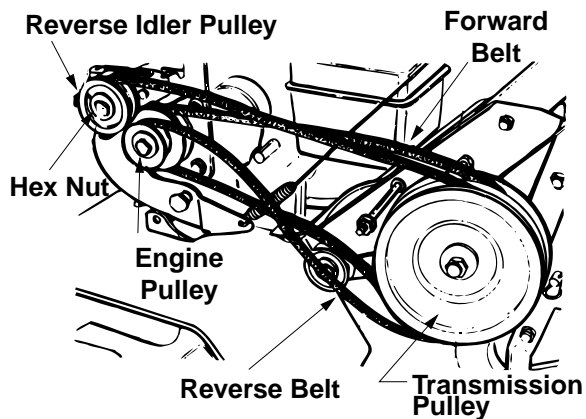

Figure 19 Model 390 Shown
5. Remove the hex nut which secures the reverse idler pulley to the idler bracket. Slide idler pulley out and remove the belt. (See Figure 19.)
#### Forward Drive Belt (See Figure 19)